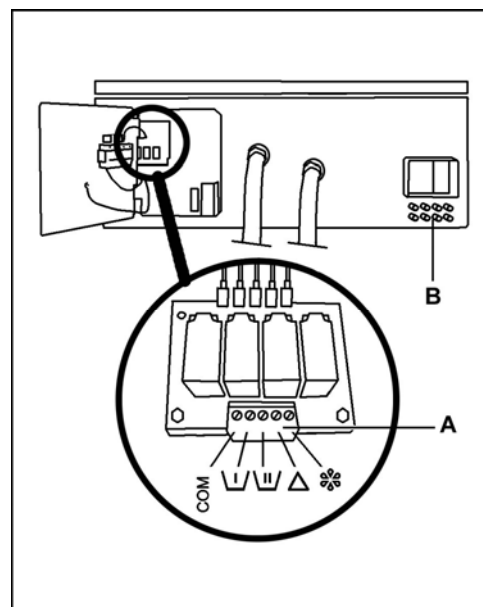

fig. 12
##### Connection of the dispenser equipment to the washer (fig. 12).
- Connect the hoses to the nipples **B** on the manifold (fig. 12).